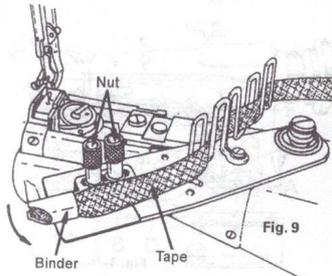

Fig. 9
2. Lead tape as shown by Fig. 9.